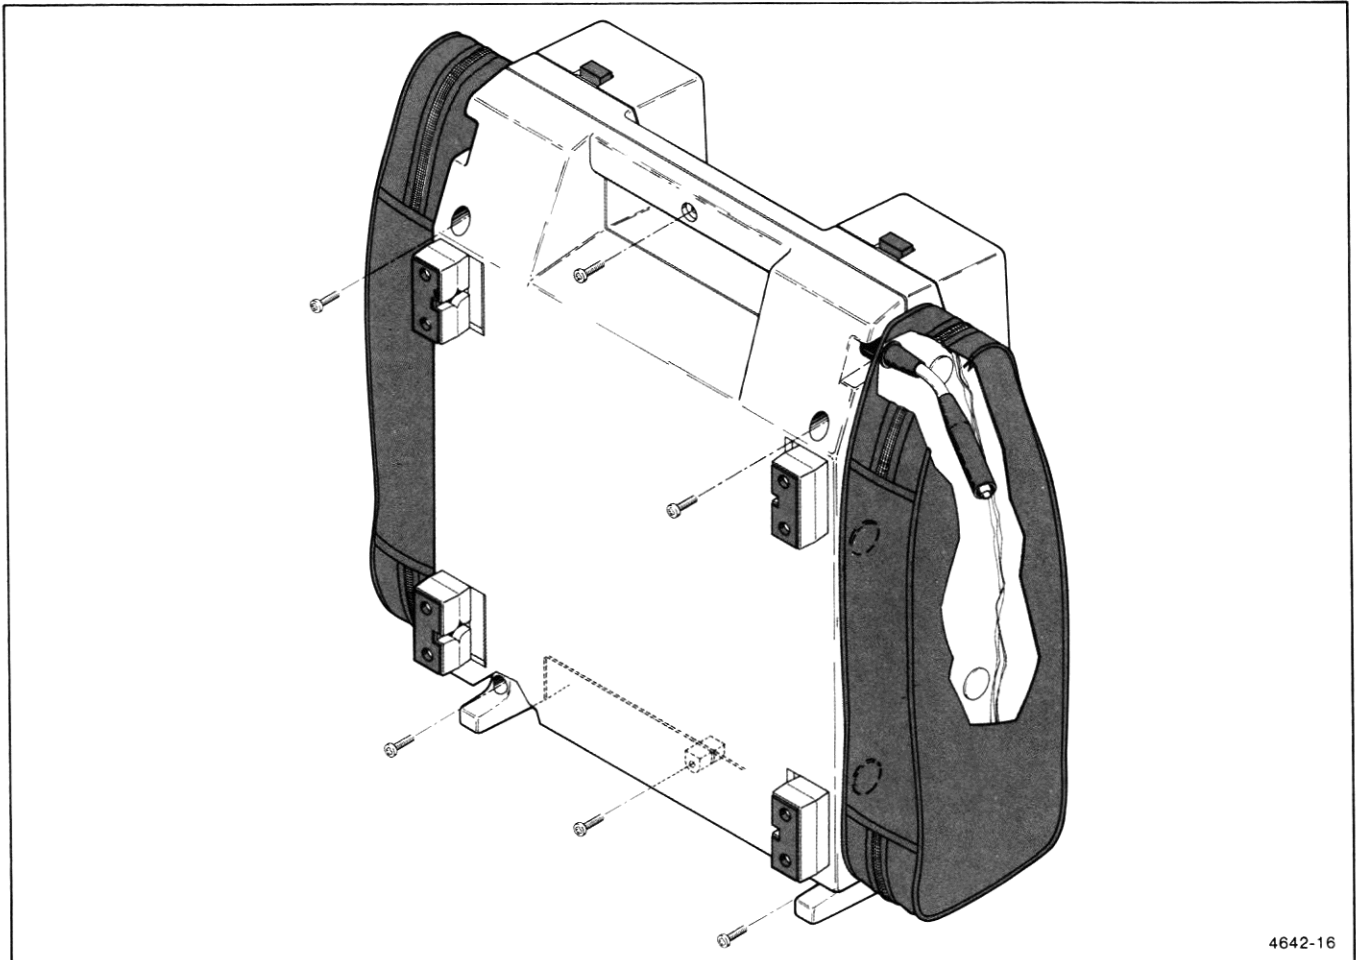

Figure 6-3. Top cabinet half removal.
To remove the Side Pouches and Top Cabinet Half (including the Front Panel Lid), proceed as follows (refer to Figure 6-3):
2. Place the A6902A on its feet as shown in Figure 6-3 and remove six Torx® screws as shown.